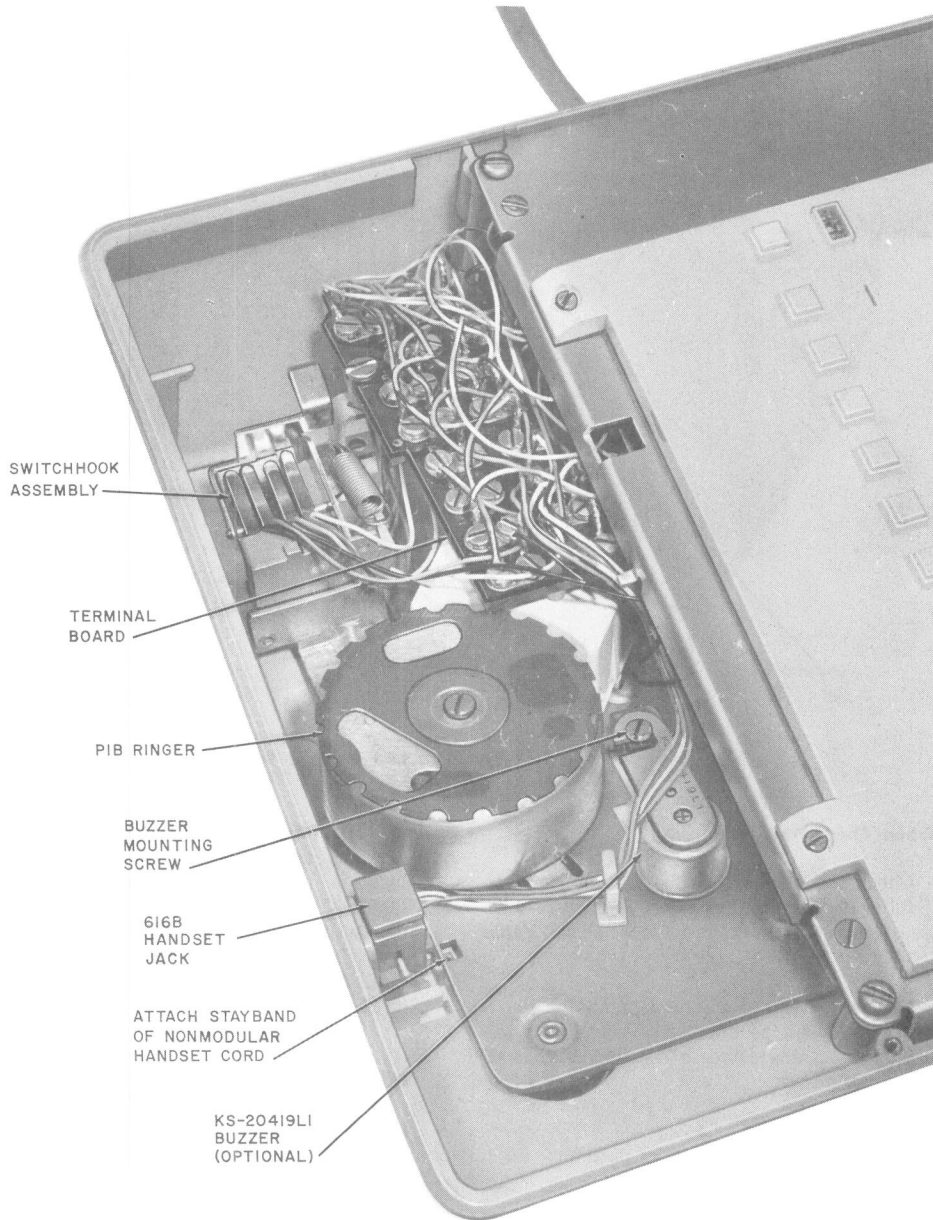

Fig. 3—Telephone Set With Faceplate, Handset, and Handset Cradle Removed
- (1) Remove faceplate (3.19) and place handset aside.
- (2) Remove handset cradle (3.20).
- (3) Remove screw from buzzer mounting bracket, and mount buzzer on bracket shown in Fig. 3.
- (4) Connect two blue buzzer leads to TB-11 and TB-12 and connect to 10-volt ac external circuit by changing the 623P6 jack connections as follows: